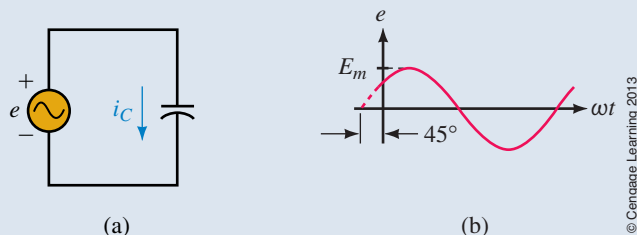

FIGURE 16-32
2. Refer to the circuit of Figure 16-32(a):